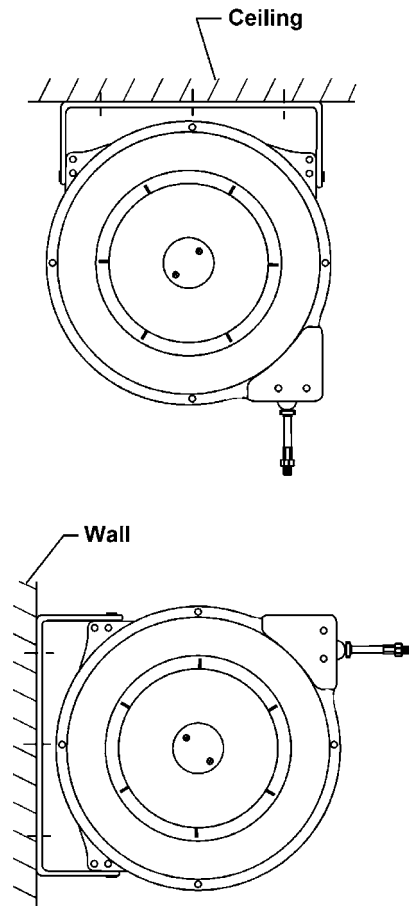

Fig. 1
1. The reel base has three 13/32" (10.5mm) drilled holes for mounting on a suitable flat surface. Figure 1 shows the reel mounted to wall or ceiling.